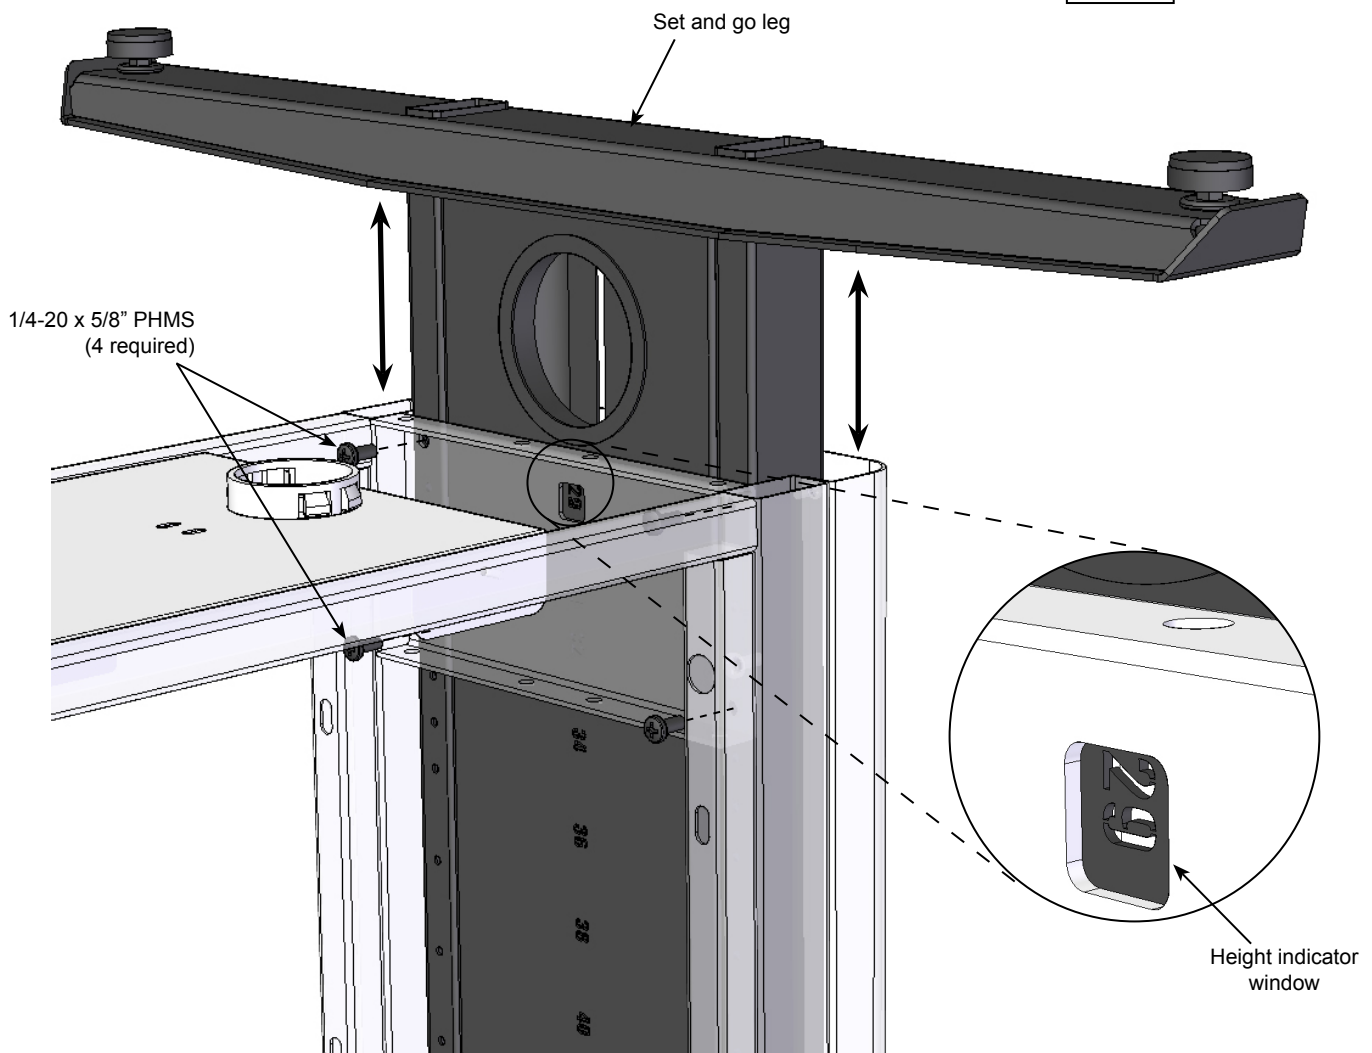

Figure 3B
1. Remove both side panels to provide access. **Figure 3B.**
2. Locate and remove the (4) 1/4-20 x 5/8" PHM screws that secure the Set and go leg. While these screws are removed, have a helper support the detached leg.
4. Replace the (4) 1/4-20 x 5/8" PHM screws and tighten securely.